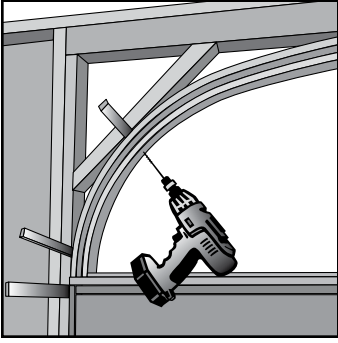

Fig. 37
- F. Drill countersunk pilot holes on the rabbeted portion of the transom jamb through the location of every shim (**Fig. 37**). Fasten the transom jamb to the studs through these pilot holes with 3" corrosion resistant screws.